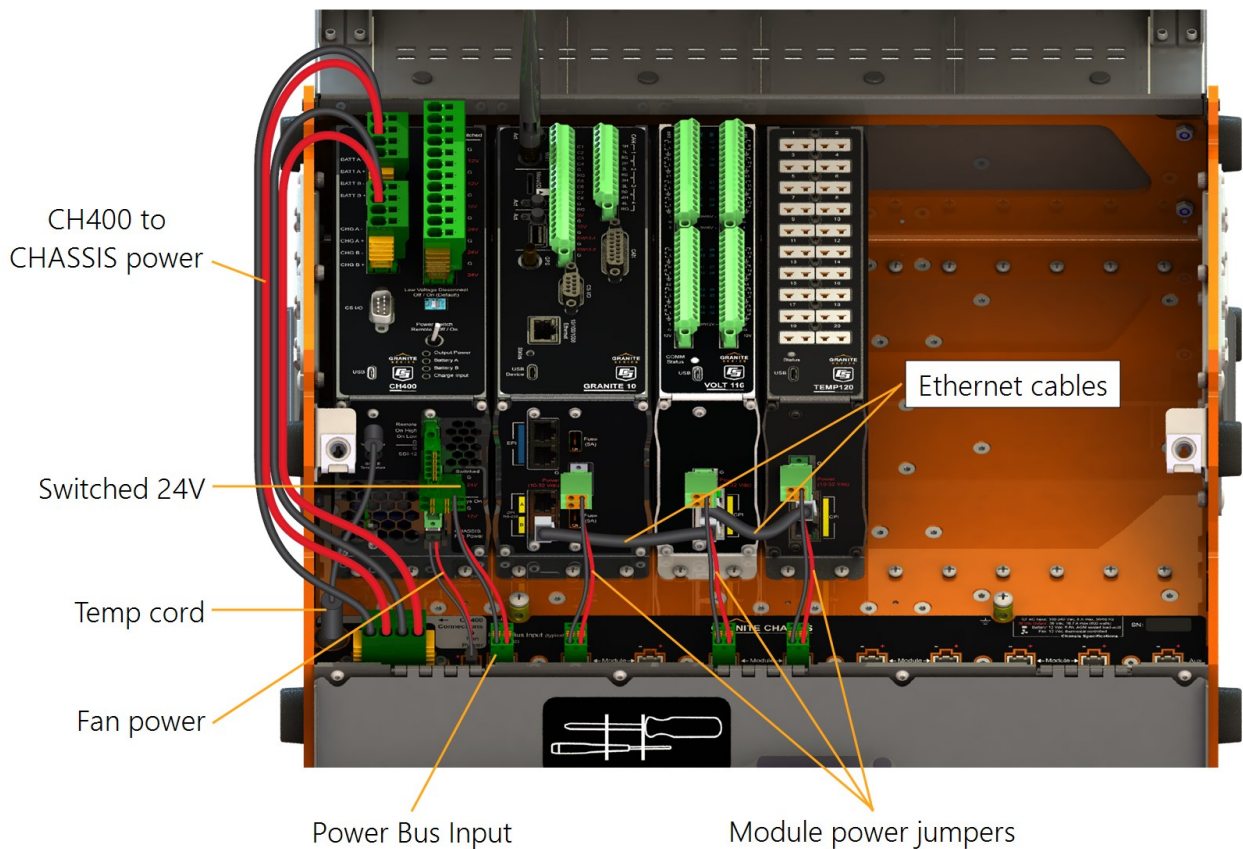

Figure 4-1. Typical CHASSIS setup
6. Plug the **Temp** cord, with stereo plug, into the CH400 **BATT A Temperature** port. See Figure 4-1 (p. 6) for steps 6 through 10.
The GRANITE CHASSIS includes a high performance 8-Ah onboard battery. Typically this battery is trickle charged using a CH400 (see Figure 4-1 [p. 6]) or other regulator such as the one built-in to the GRANITE 6 DAQ. See the following figure. For complex battery configurations refer to the CH400 product manual.